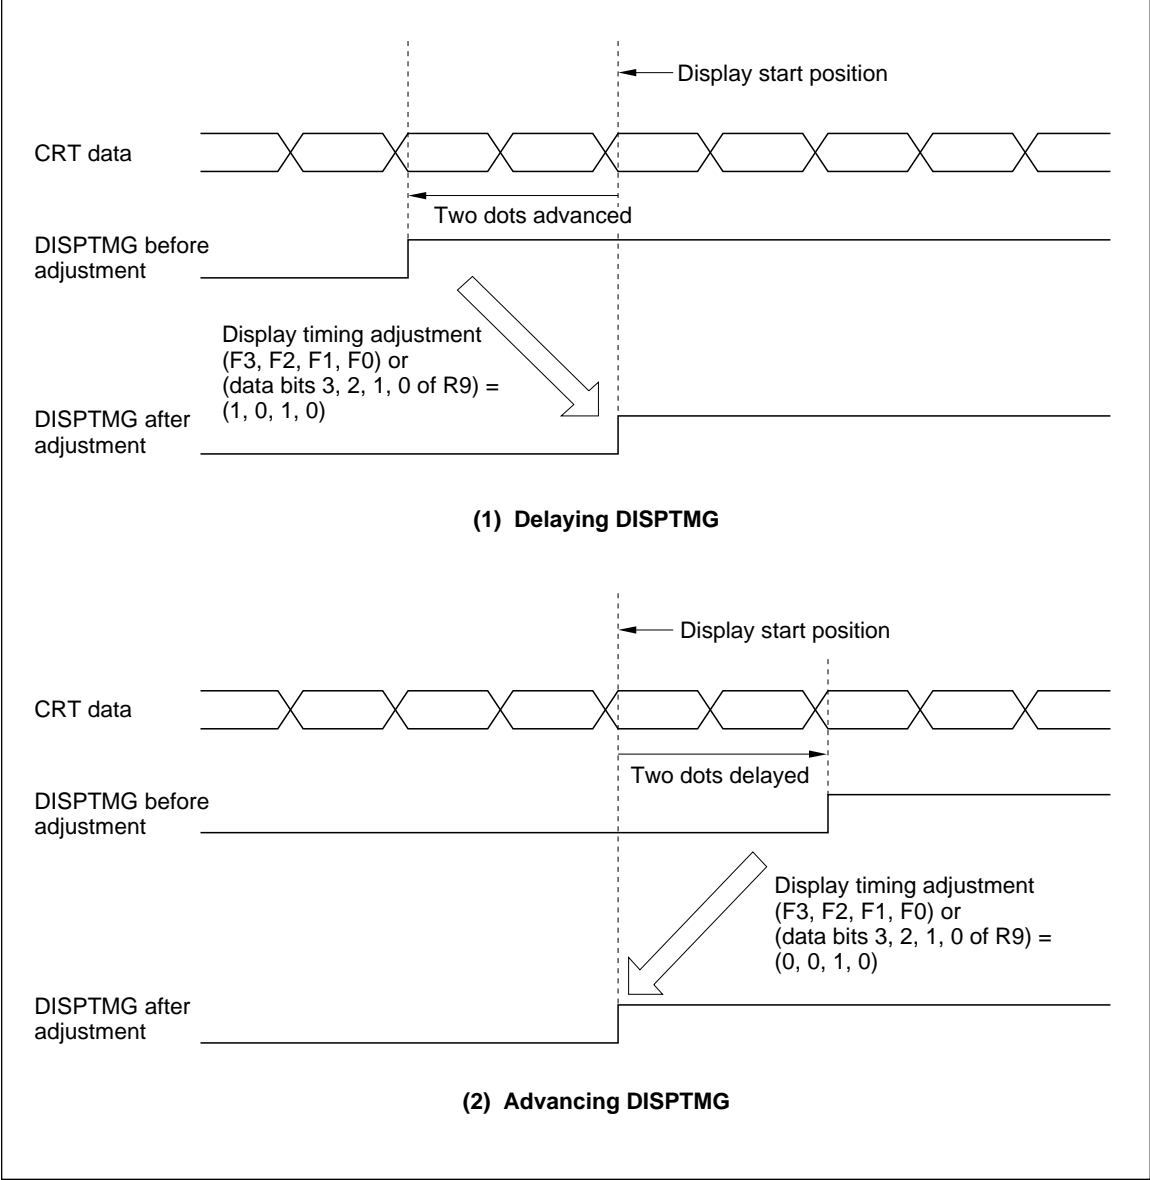

Figure 18 Adjustment of Display Timing Signal
Examples of adjusting the display timing signal are shown in figure 18. Since the signal is two dots ahead of the display start position in case (1), F3, F2, F1, and F0 or data bits 3, 2, 1, and 0 of R9 should be set to (1, 0, 1, 0) to delay the signal by two dots. Conversely, since the signal is two dots behind the display start position in case (2), they should be set to (0, 0, 1, 0) to advance the signal by two dots. If there is no need to adjust the signal, a settings of either (0, 0, 0, 0) or (1, 0, 0, 0) will do.